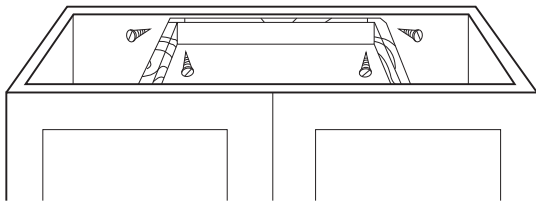

Figure C-1
- Firmly attach the frame to the cabinet interior with screws (Figure C-1).